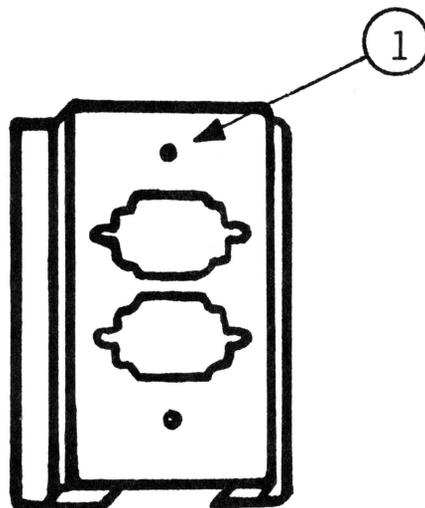

FIGURE 2
2. Locate a set of four pins near the top right edge of the interface card (see Figure 2, #1) and slide the slip-on connector onto the pins.
4. Slide this connector onto the second set of pins (see Figure 2, #2) on the interface card to the left of the first cable you connected.
2. Find the front piece of the two-piece connector clamp (See Figure 2). The top is the end where the screw hole is nearer the edge (see Figure 2,#1). Put the "D"-shaped connector and nut plate right up against the top opening. The connector should be in direct contact with the clamp, the nut plate should be directly behind the connector, and the part of the connector with the nine small holes in it should be protruding through the opening in the clamp.